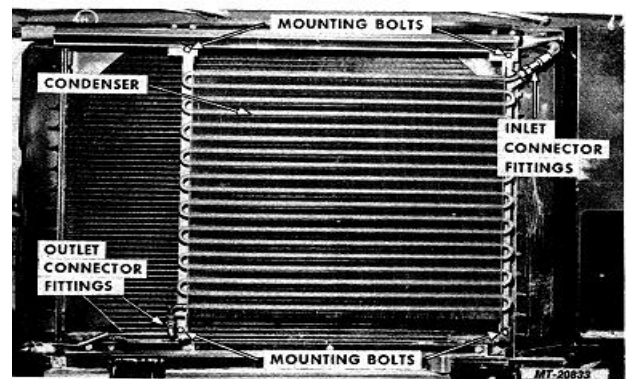

Fig. 43 Condenser Mounting (Typical)
5. Remove condenser mounting bolts (Fig. 43) and remove condenser from radiator support.